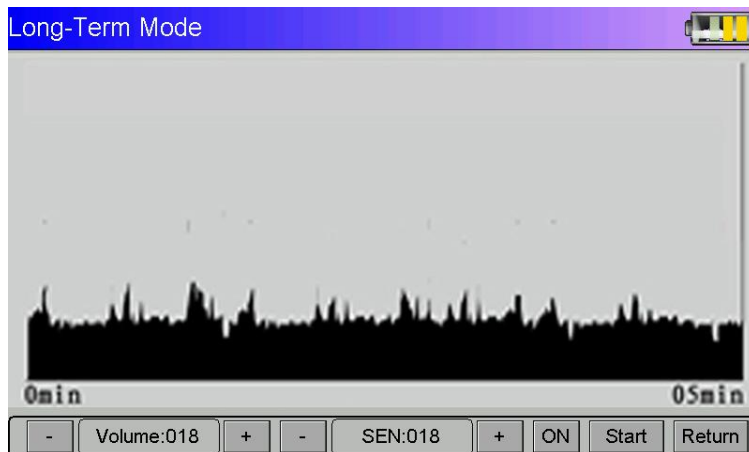
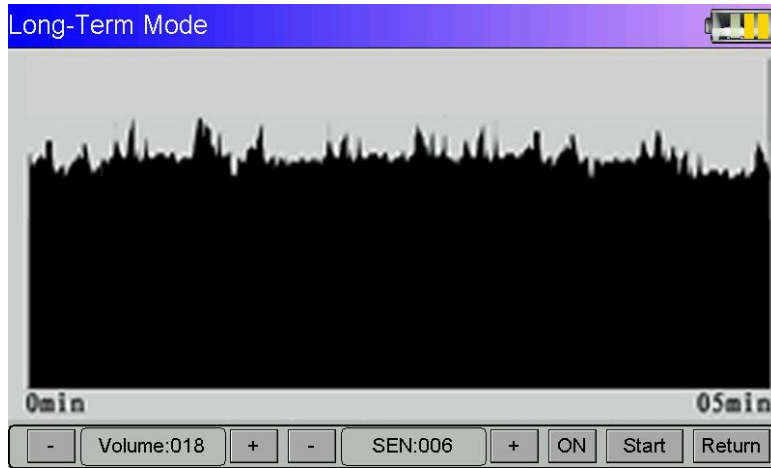

Figure 10
Figure 11
(2) The sensor is placed on the ground above the water leakage point, carrying out the continuous monitoring of two different periods of peak water and low peak. In this case, the value of the sensitivity should be set to the same value.
■ In the same suspected leakage point, curve amplitude is high in peak water while the curve is at the low peak showed higher amplitude. (See Figure 10 , Figure 11)